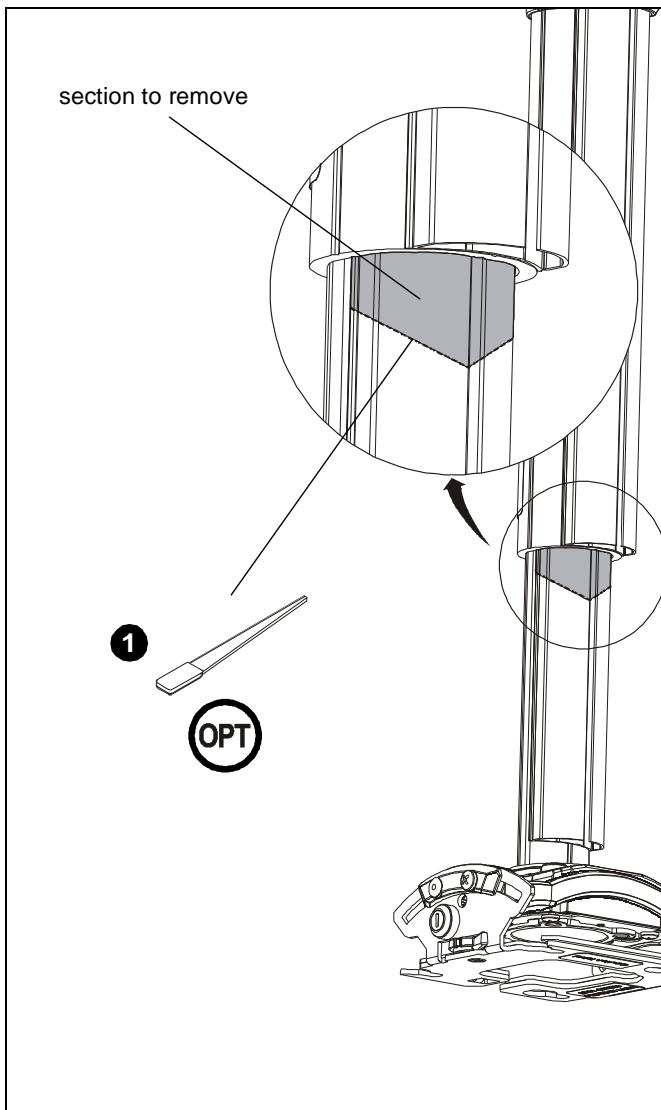

Figure 21
1. **(Optional)** Use a utility knife to cut a section of lower cable cover off to create a larger space for the cables to transition into the upper cable cover. (See Figure 21)